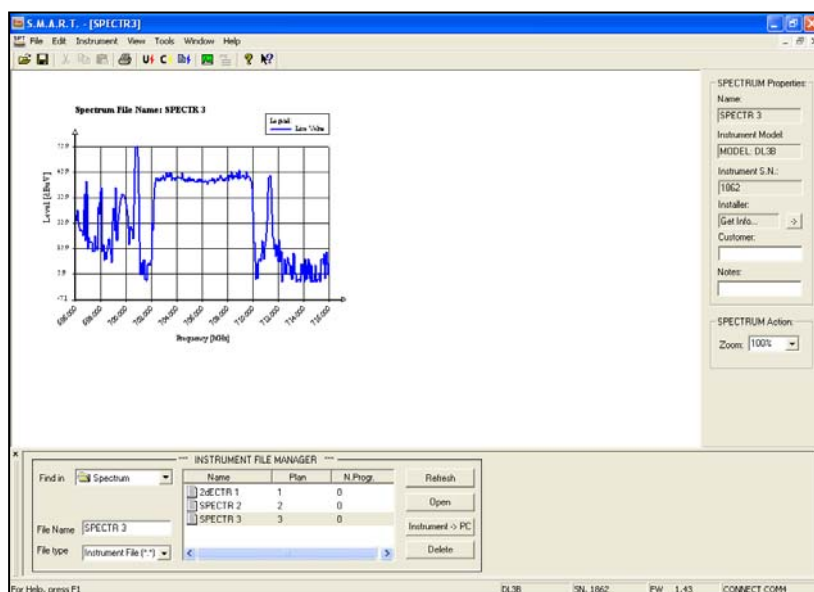

Figure 5.1
- f) Click twice on the spectrum file to show it on the screen (Fig. 5.1)